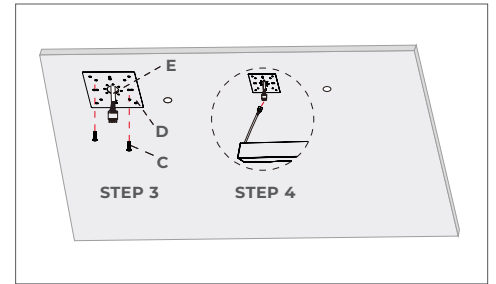

FIGURE 5-3
3) Cover the junction box with mounting plate "D" and secure using screw "C", followed by plaster. (Figure 5-3)
4) Plug in male and female connectors together, hide all wires in the junction box. (Figure 5-3)